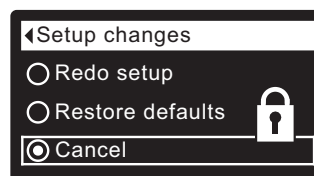

FIG. 32
8. Press the RIGHT (►) button. A flashing padlock icon will appear, as shown in Figure 32.
- 1-7. Go to the **Setup changes** screen (Figure 32) by following Steps 1-7 at left.